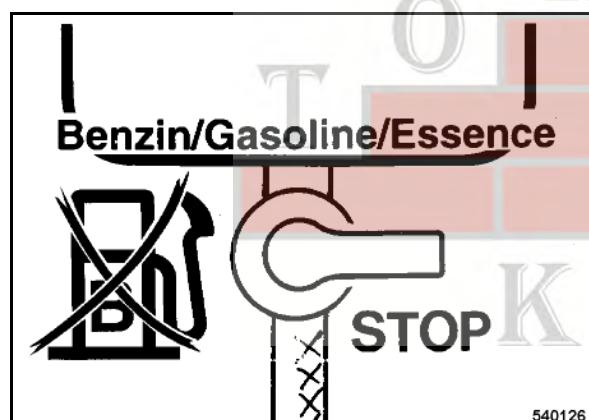

Fig.51 □
- Set the fuel valve (Fig. 51) to "STOP" position (closed).